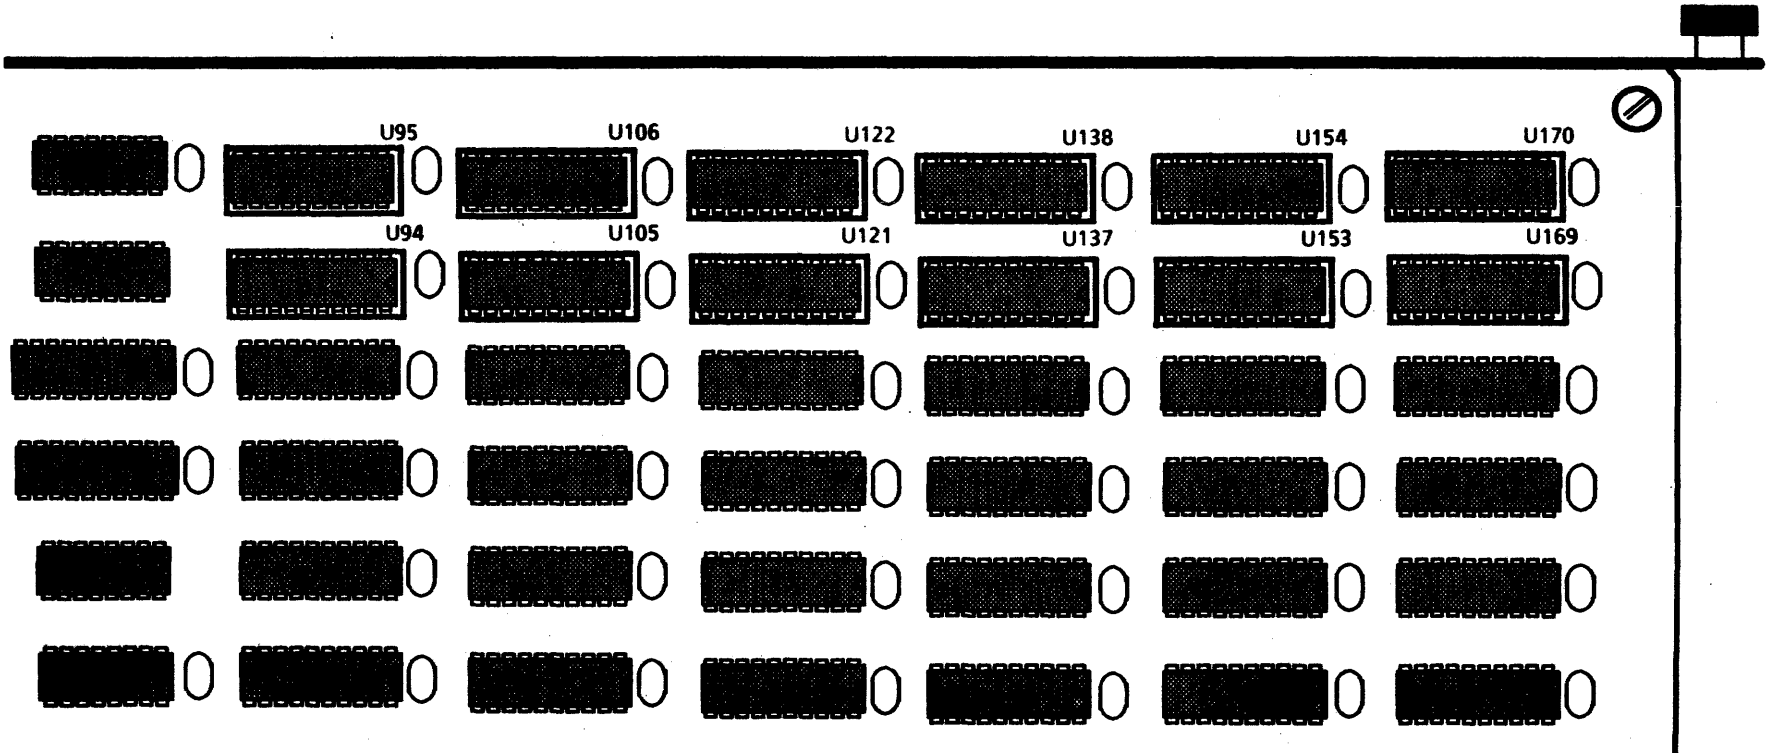

Figure 4-12 MPB PWBA
1. Locate the sockets that will receive the twelve chips (Figure 4-12). These sockets are numbered U95, U96, U105, U106, U121, U122, U137, U138, U153, U154, U169, and U170.